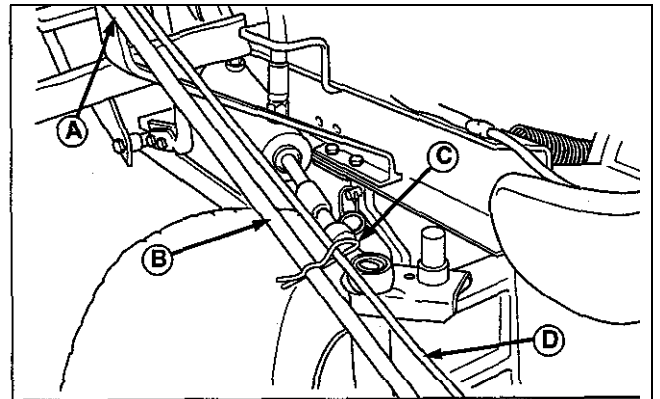

figure 8
3. See figure 8. Assemble the upper angling rod (A) and sweeper angling rod (B). Insert a hairpin clip (C) through the rod to secure. Be sure to route the cable (D) through the hairpin as shown.